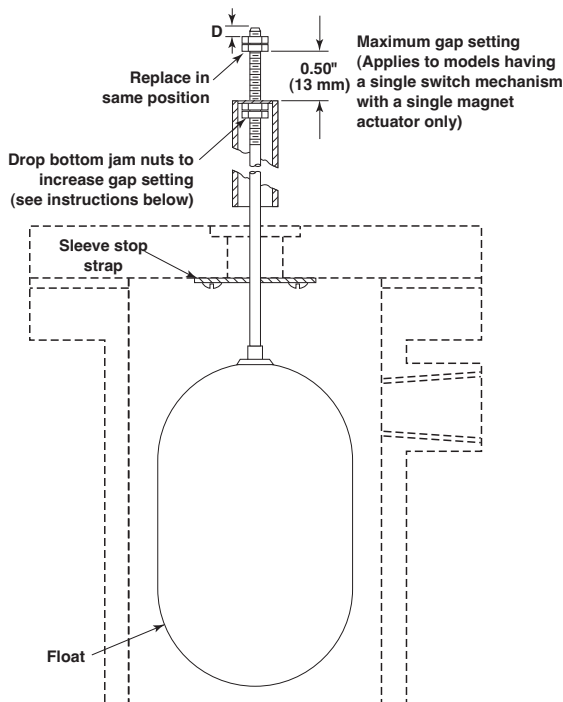

Figure 6
The differential on low level controls may be adjusted by repositioning the lower jam nuts on the float stem. The standard factory setting is for a minimum amount of play (gap) between the top jam nuts and the attraction sleeve. Refer to **Figure 6**.
8. Measure the distance "D" from the top edge of the upper jam nuts to the top of the float stem. Refer to **Figure 6**. Record this measurement.
10. Loosen and adjust lower jam nuts to the desired position. Tighten lower jam nuts securely. Refer to **Figure 6**.
12. Replace upper jam nuts and guide washer on the stem in the position previously noted. Tighten upper jam nuts securely. Refer to **Figure 6**.